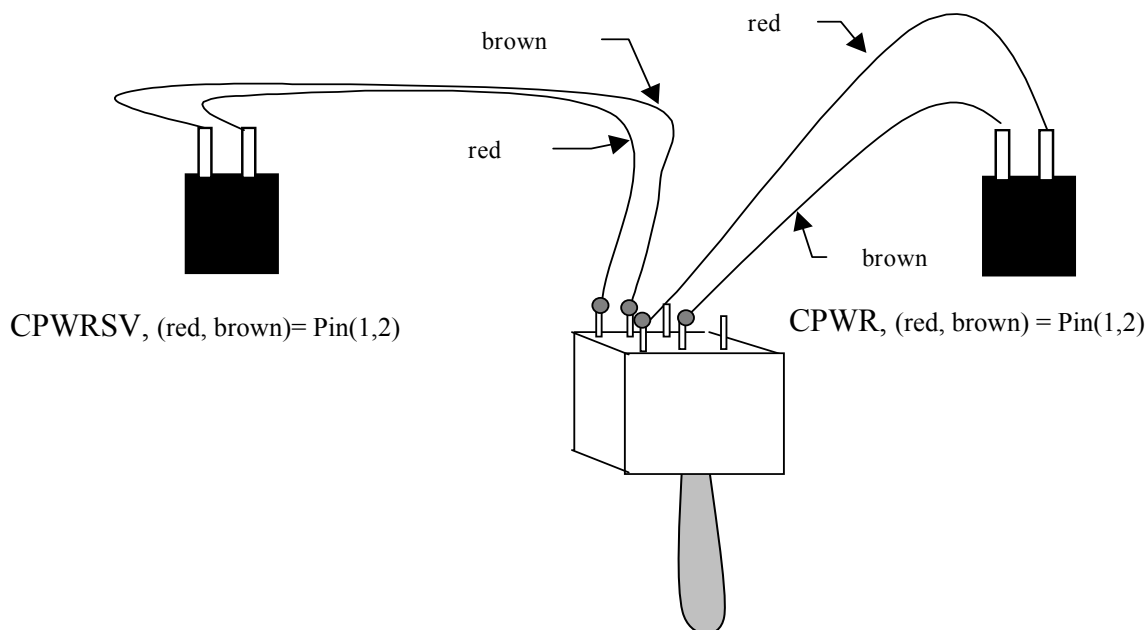

Figure 27 Wiring the Power-On and Servo-Power connectors to the DPDT switch.
3. Tin and solder the cables to the DPDT switch as show in Figure 27.